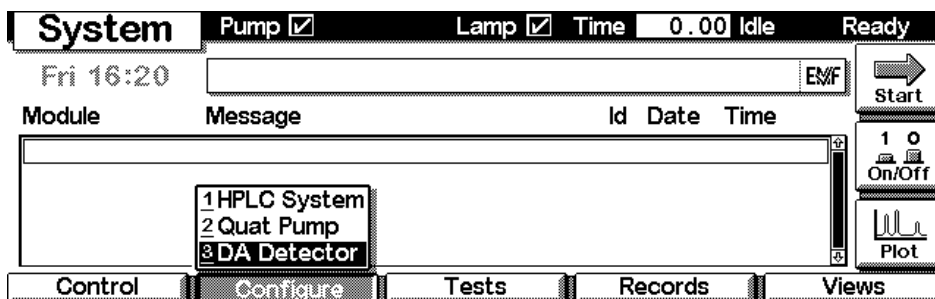

Figure 24 Select module
- 2 Press F2 “Configure”, select the module where the LAN cable is installed and press the “Enter” key (Figure 24).